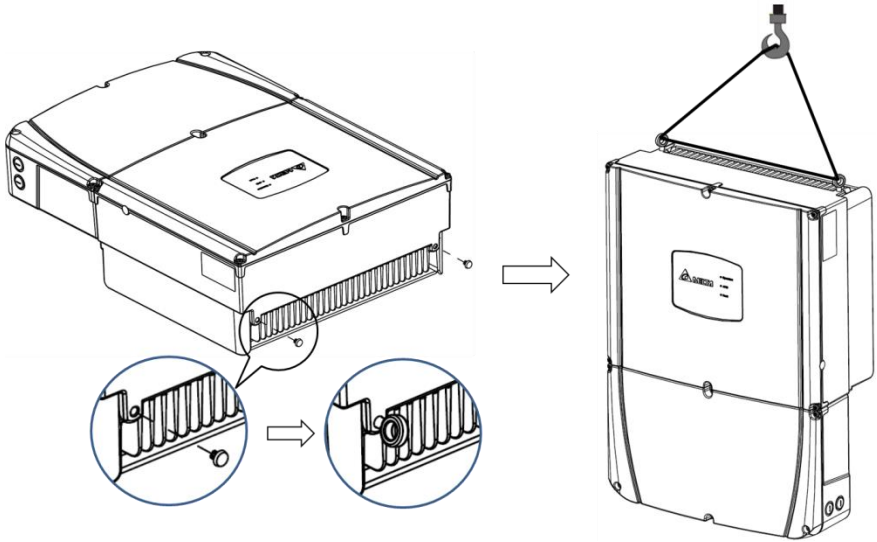

Figure 15: Lifting the inverter using ropes
- 4) It is recommended use suitable lifting equipment for lifting and moving inverter: use 2x M10 screw holes at the top of inverter, remove rubber caps, and install 2x M10 lifting eyebolts, using rope through the eyebolts and lift up the inverter, the rope must bear the weight, refer to figure 15.